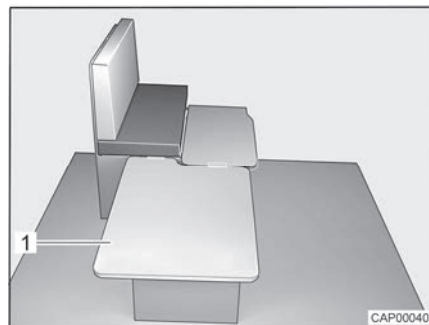

Fig. 54 During conversion
- Hook removable board (Fig. 54,1) in on the side of the bench and place it on the table.